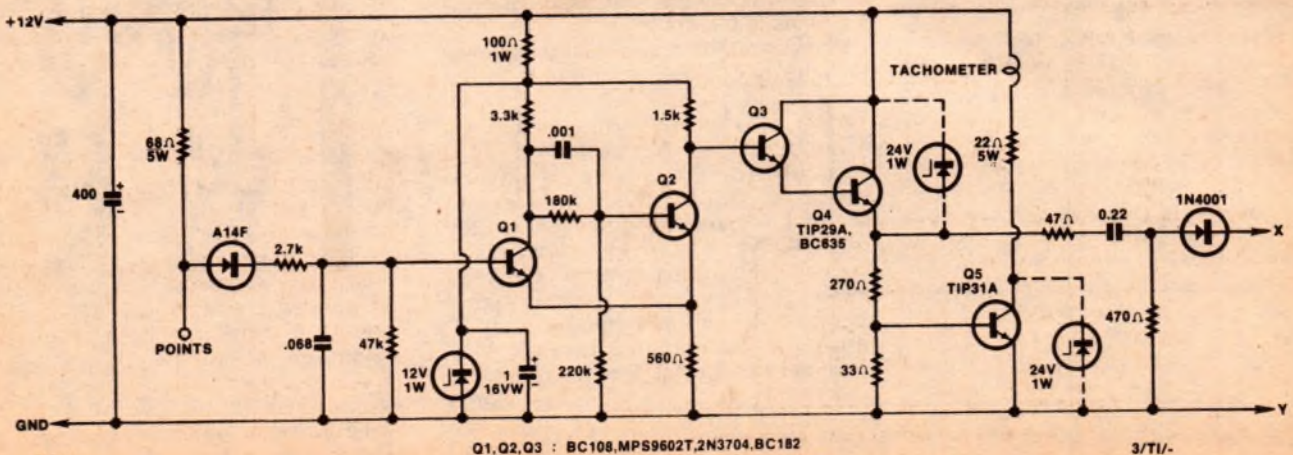

FIG. 4
- replace the NPN transistors in Fig. 4 with PNP types. For TR1, TR2 & TR3 use 2N4058, MPS9652T, 2N3702 or BC214; TR4 TIP30A, BC636 (I_cmax greater than or equal to 500mA, P_d greater than or equal to 1W); TR5 TIP32A (I_cmax greater than or equal to 1.5A, h_{FE} greater than 15 at I_c = 1.5A; and
Examination of Fig. 4 will show that the delay is provided by a Schmitt trigger monitoring the voltage on an RC integrator which also suppresses points bounce. The standard points "condenser" has so small an effect on the time delay that its presence or absence is immaterial. The somewhat complex Schmitt circuit was chosen for its square wave output. In this switching application the Darlington pair used on the Schmitt output is ideal for impedance matching and drives both the SCR gate and the impulse tachometer driver.